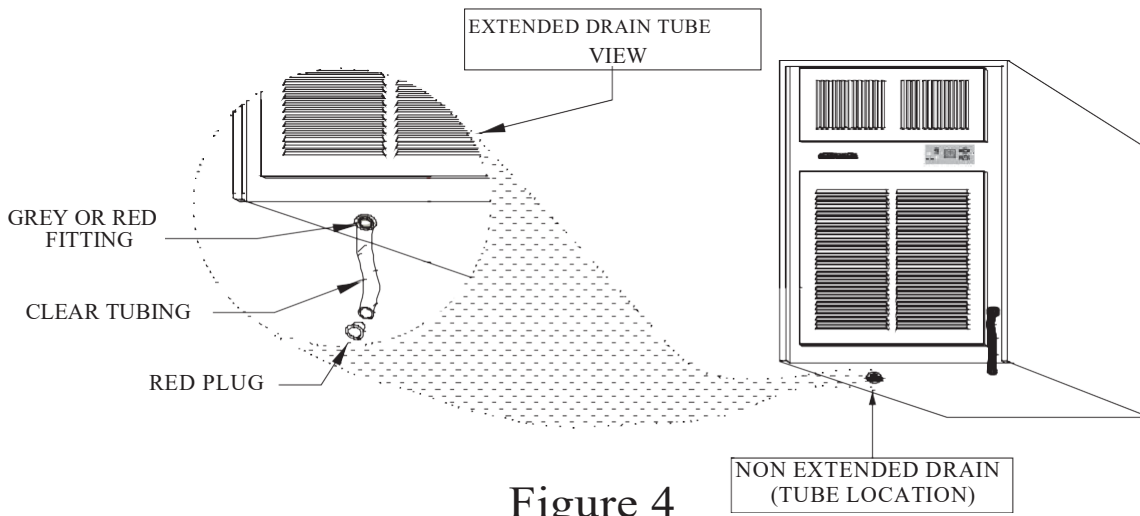

Figure 4
**EXTENDING THE DRAIN TUBE:** To extend and open the drain, use a pair of small pliers to grab the red plastic plug and vinyl tubing. Pull the plug and tubing down approximately 6 inches until it snaps into the locked position and the "Grey Fitting" is visible through the drain hole (see Fig. 4). Remove the bottom red plug. Now the cooling unit will drain any condensate that is standing above 1/4 inch deep in the base pan.